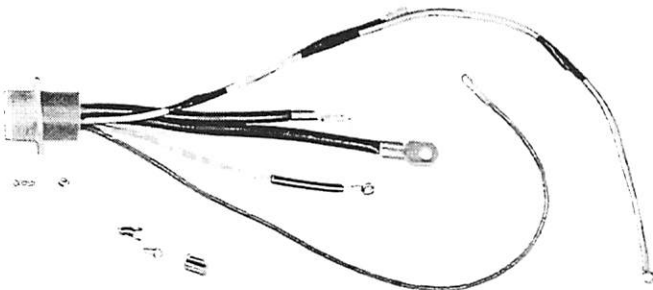

Figure 11. Electrical Wiring Harness, Mark 55E
A. Wiring Harness, 4 Cylinder Motors Only (Figure 11)